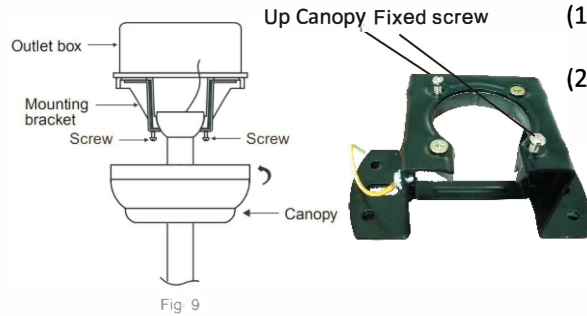

Fig 9
(2) Rotate the motor assemble until the "Check Tab" on the mounting bracket has dropped into the "Registration Slot" on the hanging ball and seat firmly (Fig.7 Fig.8 Fig.9)